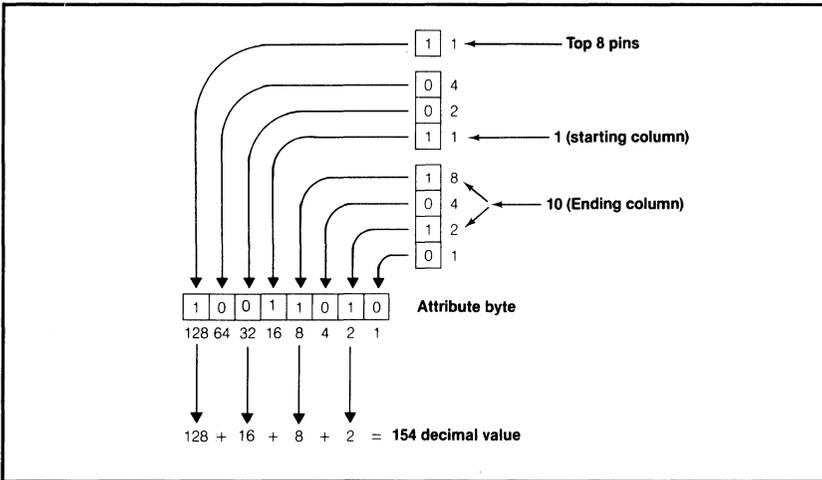

Figure 17-5. Attribute byte conversions.
Let's create a sample attribute byte together. Suppose you want a character to start in column 1 and end in column 10. How do you put this information into the attribute byte? Easy, just follow along. The starting column number (1) is converted to a 3-bit binary number (001) and stored in bits 4, 5, and 6 of the attribute byte. The ending column number (10) is converted to a 4-bit binary number (1010) and stored in bits 0 to 3. The conversions are shown in Figure 17-5.
So the attribute byte constructed in Figure 17-5 (CHR\$(154)) would use the top eight pins, start printing in column 1, and end in column 10.